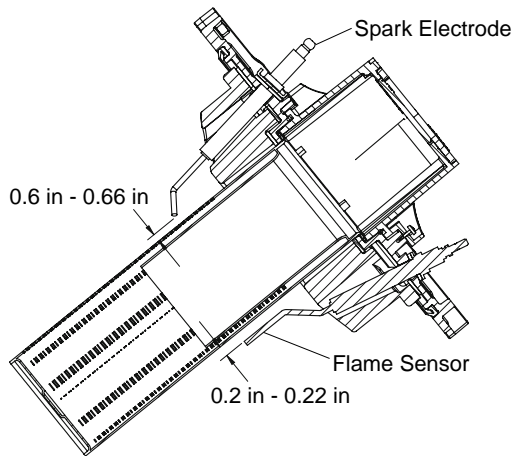
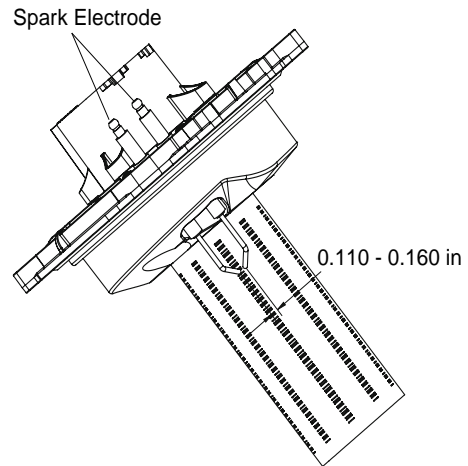

Figure 39. (A) Burner Spark Electrode
Figure 40. (B) Flame Sensor Rod
- The Thermal Insulation must be checked every 12 months, and if necessary be replaced. Inspect the Thermal Insulation for signs of exterior damage to the device. It is recommended to call a qualified service technician to inspect the Thermal Insulation. See Figure 39 and Figure 40.